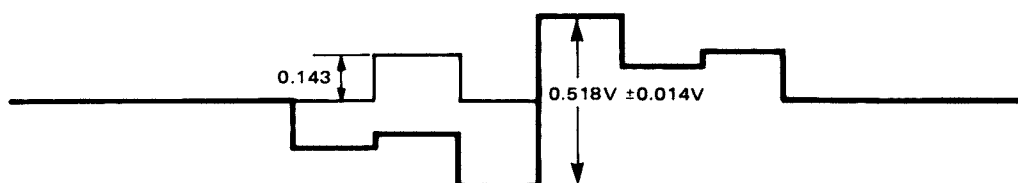

Figure 5-21. Q Gain Adjustment
- STEP 3 Adjust R104 (Q GAIN) so that Q output signal is 0.518 Vp-p ± 0.014 V (or pin 6 on blue connector) (Figure 5-21).